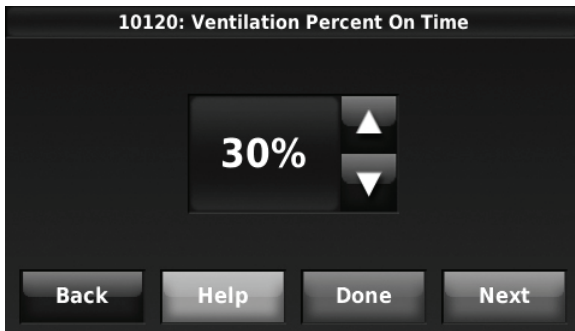

Fig. 260.
- If Percent On Time was selected for ISU 10050, select the Ventilation Percent on Time. See Fig. 260.